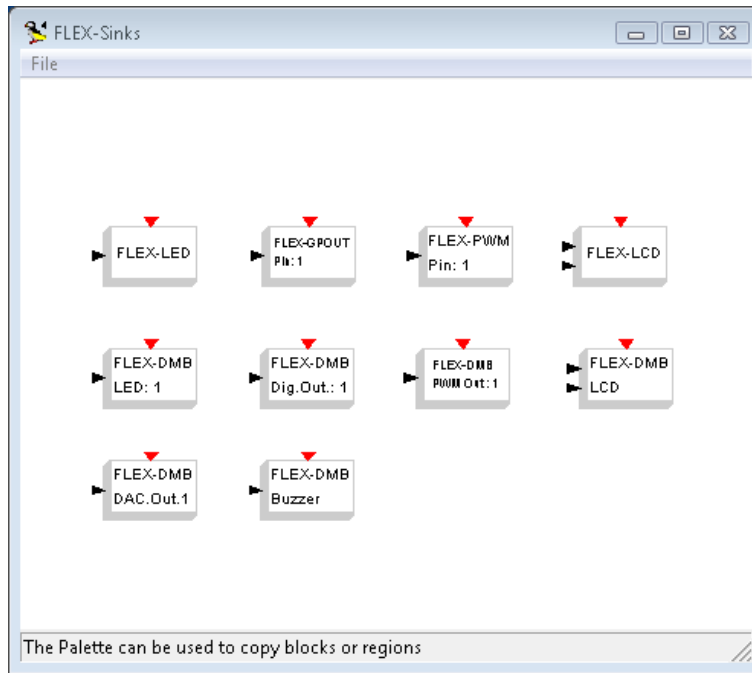

Figure 5.5: The dsPIC Palette.
6. A windows appears, with some sink blocks specific for the FLEX board (see Figure 5.5) (a complete list of the available blocks is available at the end of this document).